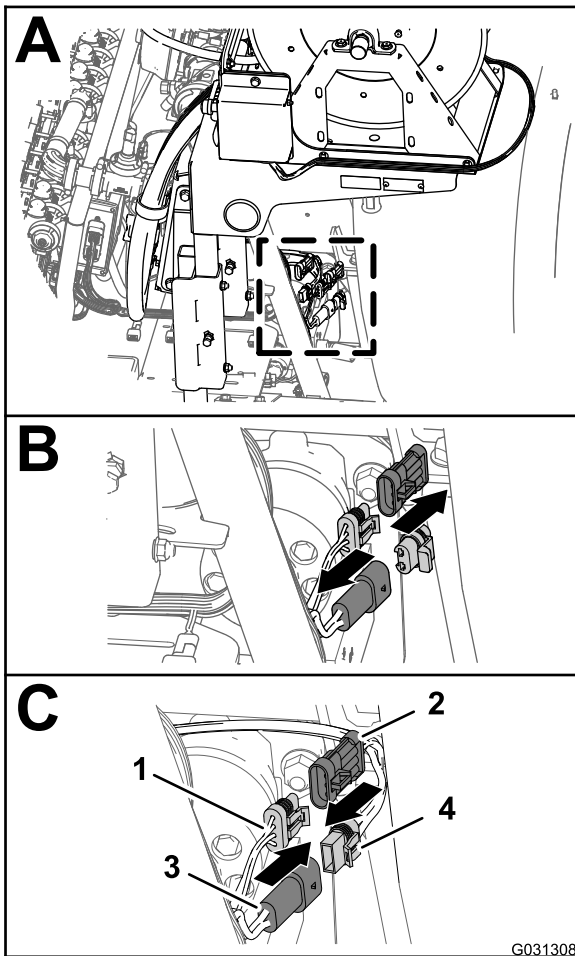

Figure 179
1. At the back of the machine, locate the wire harness for the electric hose-reel kit at the back of the sprayer tank (A of Figure 179).
- Remove the plug from the 2 pin connector of the rear, main harness for the hose-reel power (B in Figure 179).
- Connect the 2 socket connector of the harness for the electric-hose reel into the 2 pin connector of the rear, main harness (C in Figure 179).
- Remove the cap from the 3-socket connector of the rear, main harness for the spray harness interconnect (B in Figure 179).
- Connect the 3 pin connector of the harness for the electric-hose reel into the 3 pin socket of the rear, main harness (C in Figure 179).